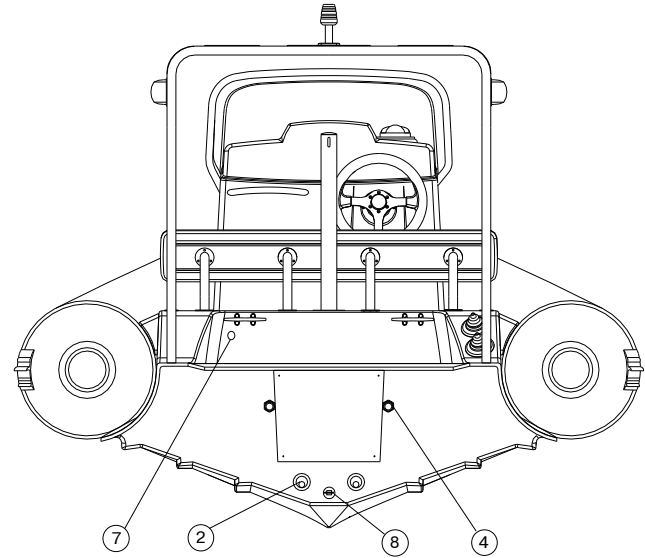

Fig.D8
- automatic bilge pump (5);
- drain hose (6);
- drain socket installed in the motor recess (7);
- bilge drain socket (8) (Fig.D8).
<p>WARNING</p>	<p>Bilge valve (8)(Fig.D8) should be tightly CLOSED when the boat on the water</p> <p>Bilge valve (8)(Fig.D8) should be open when the boat is out of the water</p>